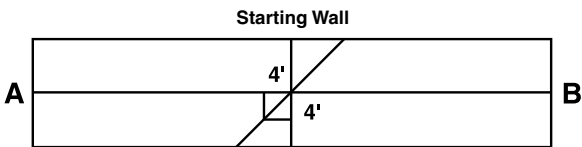

Figure 3
- 3. For some patterns such as herringbone, the diagonal working line is formed by striking a line through the center of the room. See Figure 3.